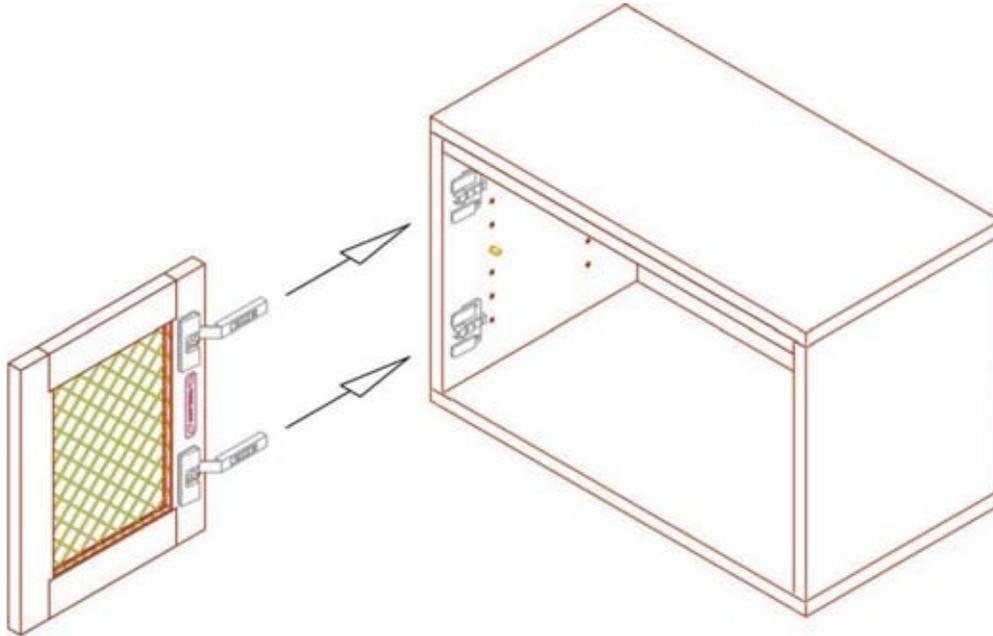

Figure 3
3. Locate your cleat and cut 1 1/2" off of the end resulting in a 21 3/8" cleat (**Figure 3**).
5. Standing the door upright, open the hinges and line up the hinges with the hinge plates on the conversion box (**Figure 3**).